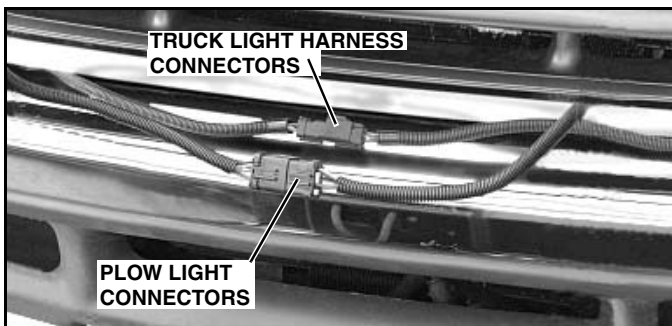

Figure 1-40
4. To make the truck lights operable, plug the male and female EIS® connectors on the truck light harness together (See Figure 1-40).